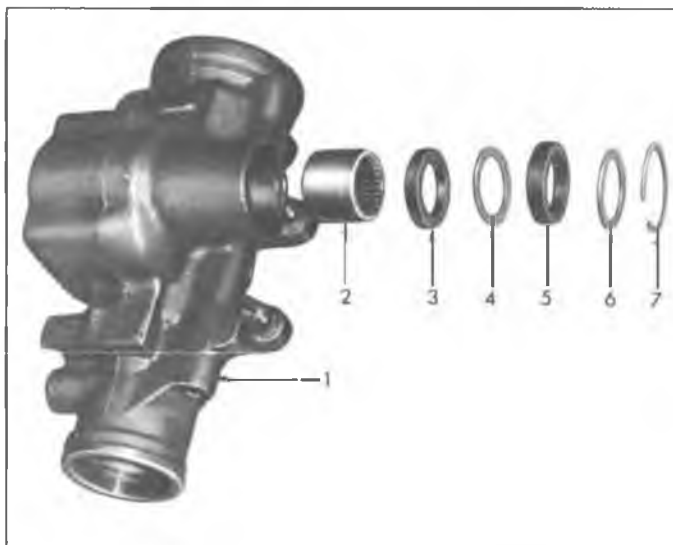

Fig. 49—Pitman Shaft Seals
1. If pitman shaft seals ONLY are to be replaced, remove the seal retaining ring and outer steel washer, then pry out the outer seal. Remove the inner steel washer, then pry out the inner seal (fig. 49).